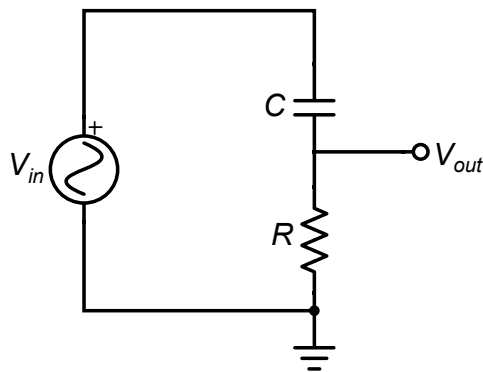

Figure 1 - High-pass filter circuit.
In this portion of the lab, you will construct the RC circuit shown in Figure 1. You will then measure the peak-to-peak output voltage  $|V_{out}|$  as a function of the driving frequency  $f$ . Copy the circuit diagram and table into your lab notebook.
2. Construct the circuit in Fig. 1 using  $R = 1 \text{ k}\Omega$  and  $C = 0.047 \text{ }\mu\text{F}$ .